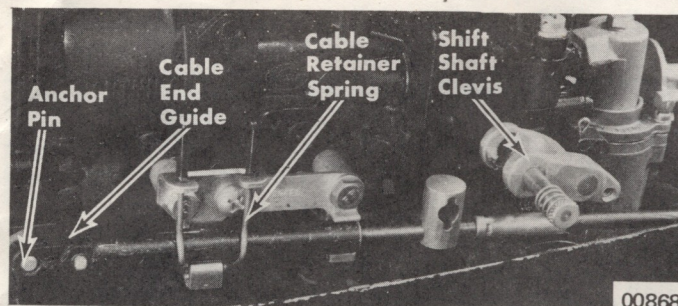

Figure 9. Fastening Shift Cable End
3. With motor in neutral gear, place cable end guide over anchor pin on cylinder block cover. Cable must pass under shift shaft clevis. Secure cable end in place by latching cable retainer spring. (Figure 9)